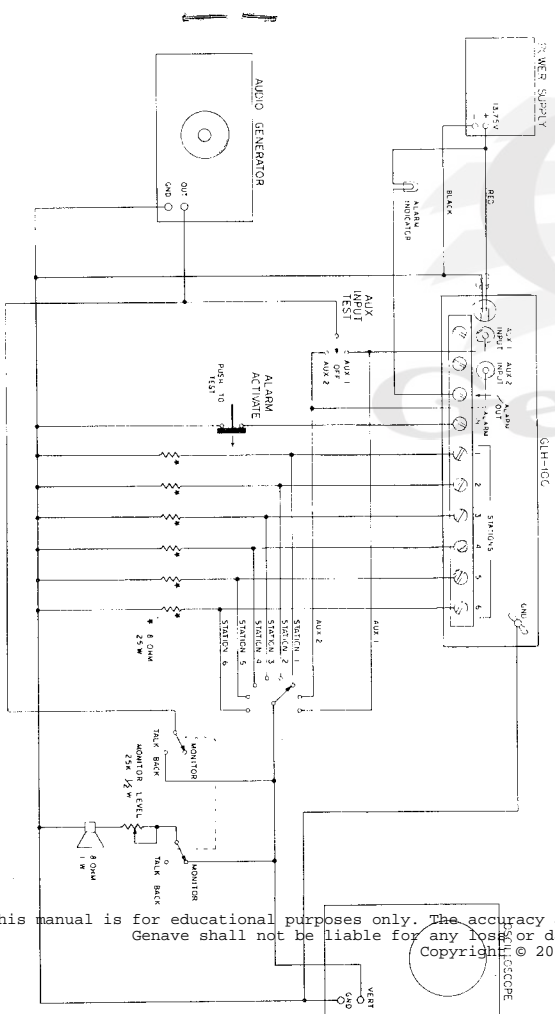

Figure 8
1. Connect the GLH-100 to the Test Setup shown in Figure 8.